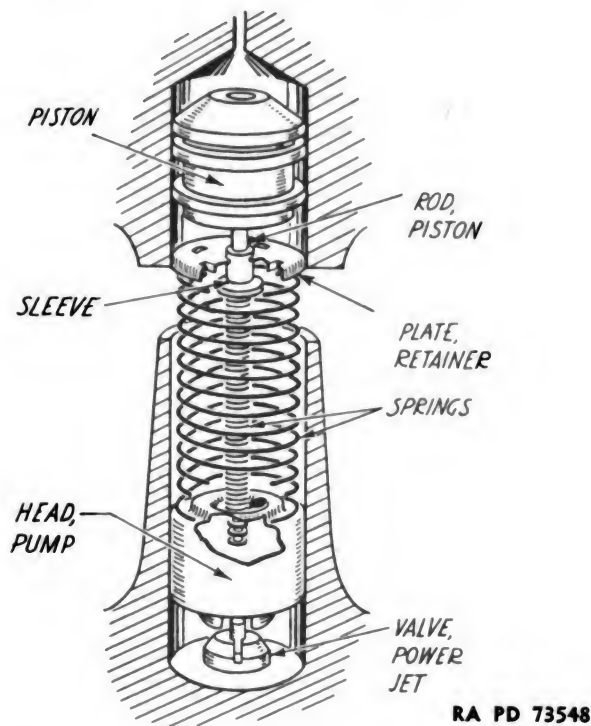

Figure 104 – Carburetor Pump Assembly Diagram
(14) Place piston rod and piston head in chamber. Secure in place with retainer plate. Slide sleeve and small spring over piston rod. Insert large spring into retainer plate flange. Attach brass pump head (fig. 104).
(15) Place the bowl to cover gasket in position on the bowl. Hold the cover assembly over the bowl, and guide the vacuum piston into the vacuum cylinder and the idling jet into its channel, being careful to avoid damage to float and other parts. Install cover to bowl assembly screws and lock washers. Tighten them evenly and securely.
(16) Screw discharge tube and new gasket into place in lower side of bowl.
(17) Place bowl to intake gasket in position on the bowl. Place the bowl assembly with gasket on the air intake. Be sure the channel bushings enter their respective channels. Install the assembly screws, and tighten evenly and securely.
(18) Place spring over idling adjusting screw, and install in tapped hole in cover.